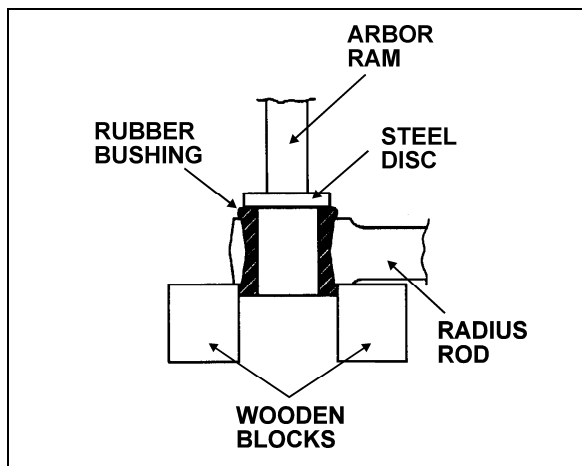

FIGURE 47: RADIUS ROD BUSHING REMOVAL 16011
1. Safely support the radius rod as shown in figure 47.
2. Place a flat steel disc, slightly smaller than the outside diameter of the bushing (Fig. 47).